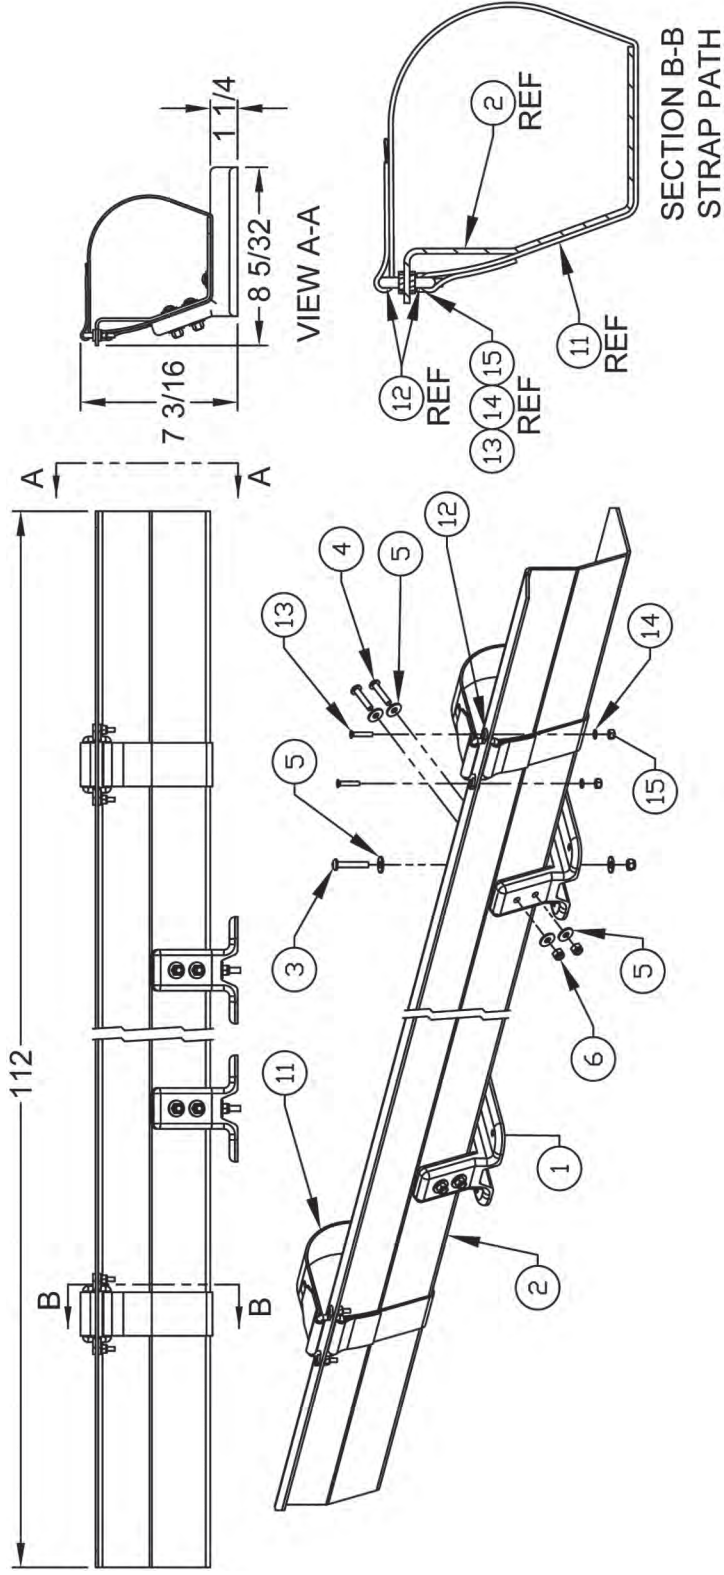

FIGURE 1
- A. HHS-TM-1: Horizontal Hard Suction Mounting Kit with (1) 10' Tray. (Figure 1)